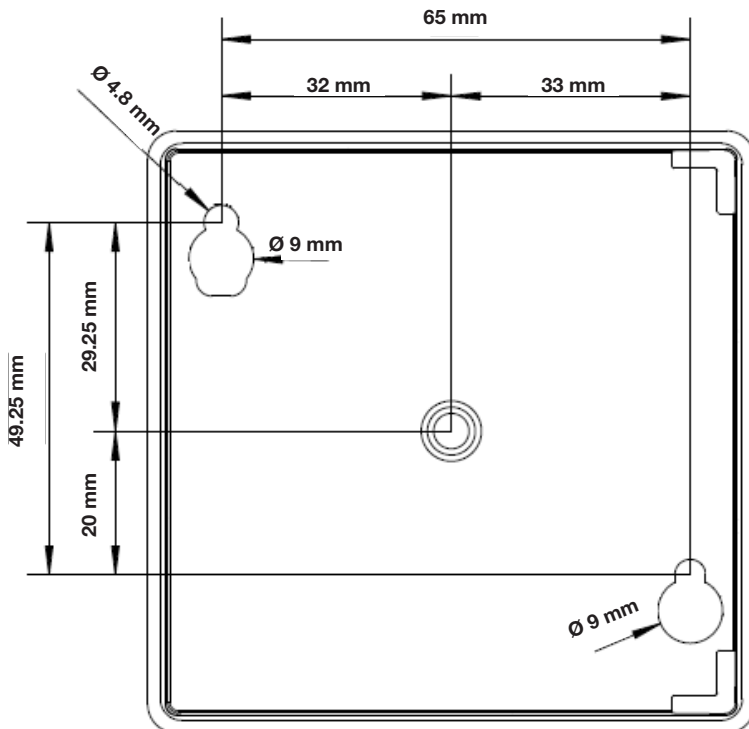

Fig. 1
3. Connect the cables as shown in the wiring diagram (fig. 1).
- Ethernet (RJ45): For connection to router. Cable length must not exceed 3 metres. (See fig. 1).